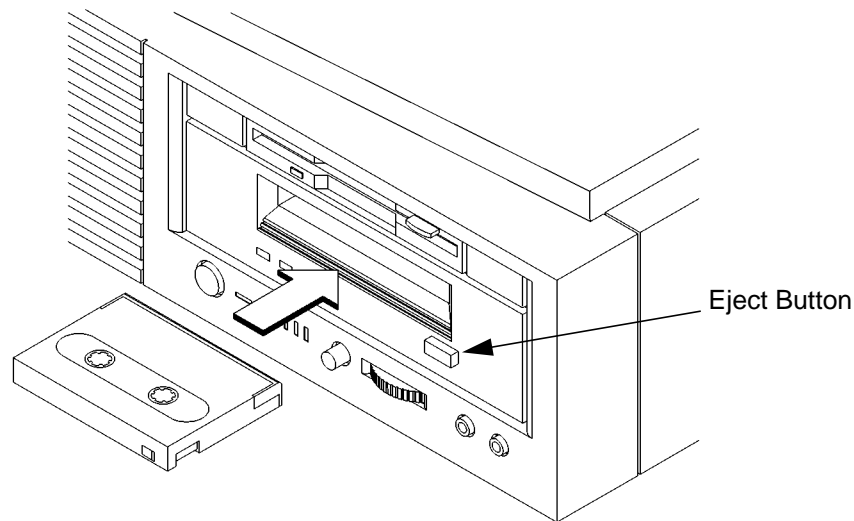

Figure 16
- 1 Insert the data cassette into the drive, as shown in Figure 16.
- 3 To remove the data cassette, press and release the eject button on the front of the drive, as shown in Figure 16. The LEDs on the drive flash on and off. Ten to twenty seconds later, the data cassette slides partway out of the drive. Remove the cassette from the drive.